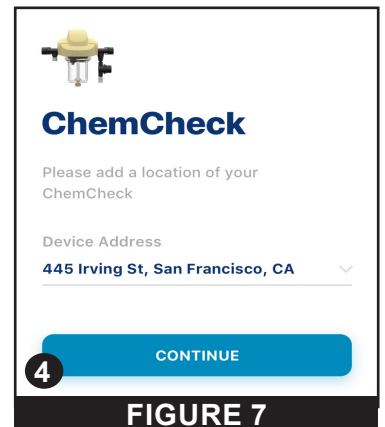

FIGURE 7
9. The Device Address screen will display (**Figure 7**). Select your address from the Device Address dropdown menu and press CONTINUE (4).